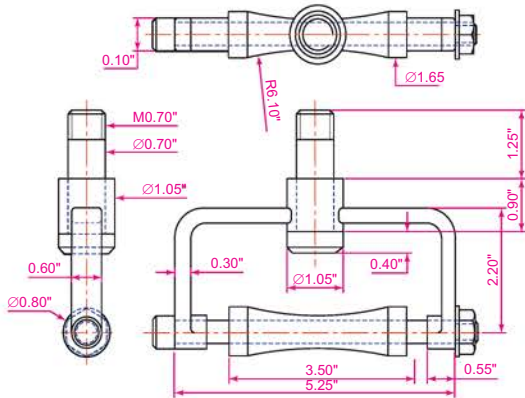
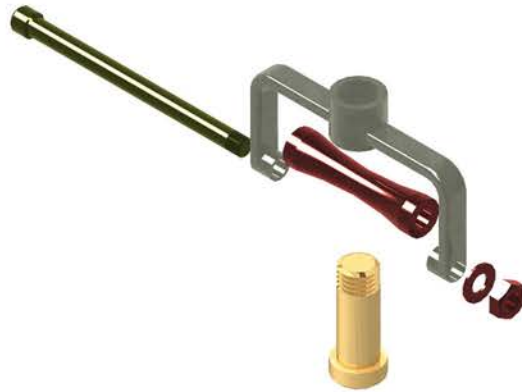

Fig. 19.20 Exercise 1 – orthographic projection
Fig. 19.21 Exercise 1 – rendered 3D model
- Working to the shapes and dimensions as given in the orthographic projection Fig. 19.20, construct the exploded 3D model as shown in Fig. 19.21. When the model has been constructed, add suitable lighting and apply materials, followed by rendering.